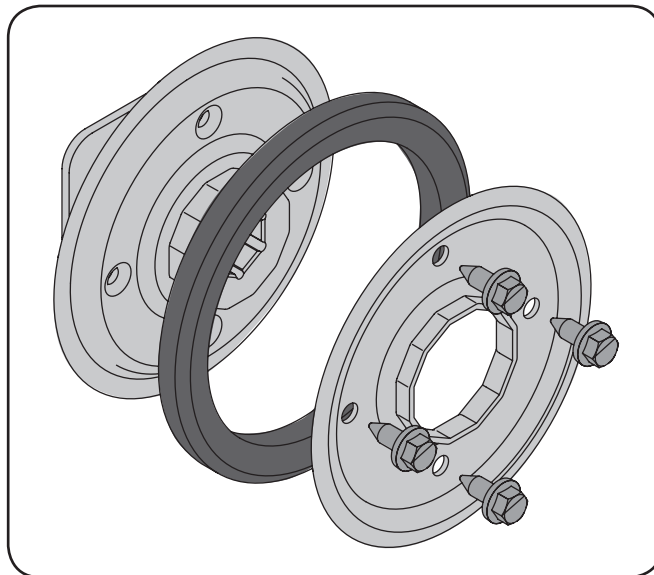

**Fig. 7-11**
6. Carefully position the hex shaft downward and to the left before carefully sliding the friction wheel assembly off the shaft. See Fig. 7-11.